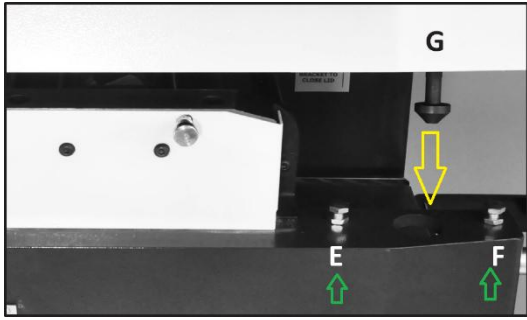

Figure 16.
4. The table can also be tilted forward or back with the two Special Bolts FIG 16 E & F. The combination of the six bolts and screws (A-F) provide a great range of table positioning to level it with the infeed table.